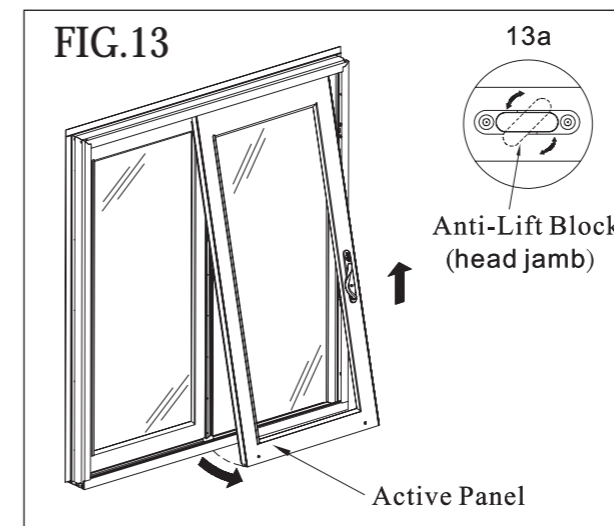
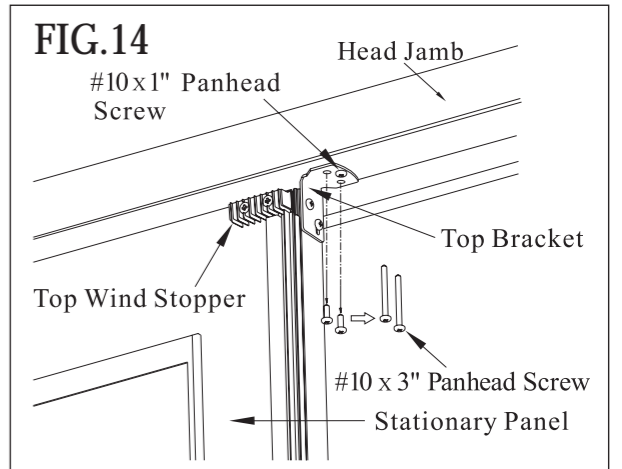

FIG. 13
FIG. 14
11. Unlock door and open active panel about half the width of the panel, remove active panel by lifting panel up and out from inner side. Make sure the Anti-lift block is parallel to the head jamb. (See Fig.13), replace the two top bracket screws with #10x3" panhead screws. (See Fig.14)